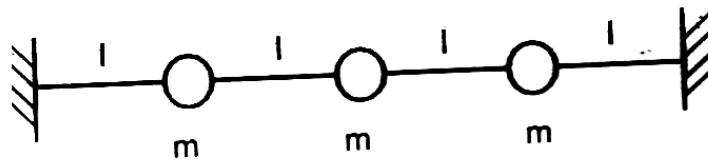

Figure Q. 9 (b)
b. Find the fundamental natural frequency and the corresponding mode shape for the system shown in Fig. Q.9(b) by the method of matrix iteration. 14